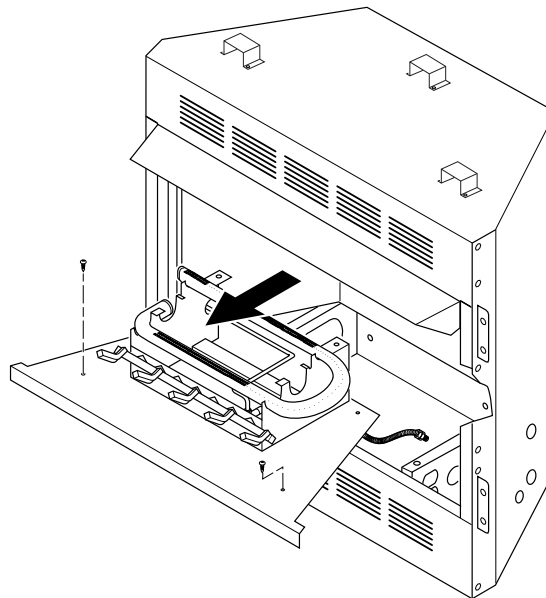

Figure 19 - Removing Log Base Assembly From Fireplace
2. Remove screws that attach log base assembly to fireplace (see Figure 19). Carefully lift up log base assembly and remove from fireplace without disturbing the brick liner panels (see Figure 19).